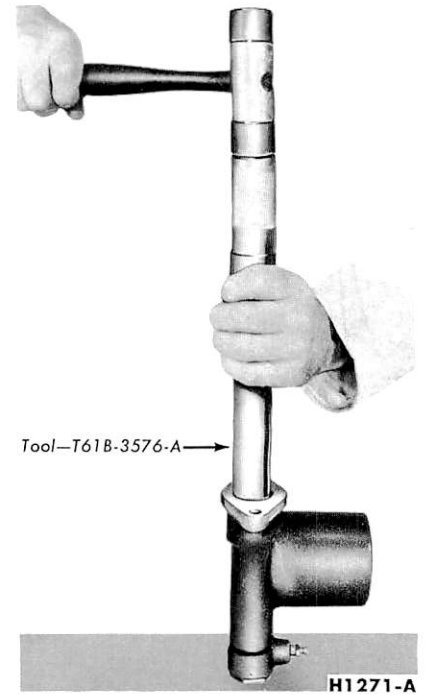

FIG. 24—Master Cylinder Bushing Installation
6. Being careful not to scratch the surface of the push rod, slide all the bushing and seal components against the retaining flange at the rear of the master cylinder bore. Force the parts into place with the tool shown in Fig. 24 and install the bushing snap ring.